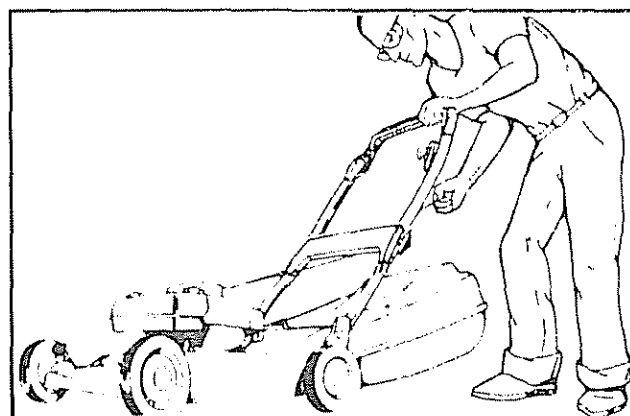

FIG. 15
5. Position yourself as shown in Fig. 15.